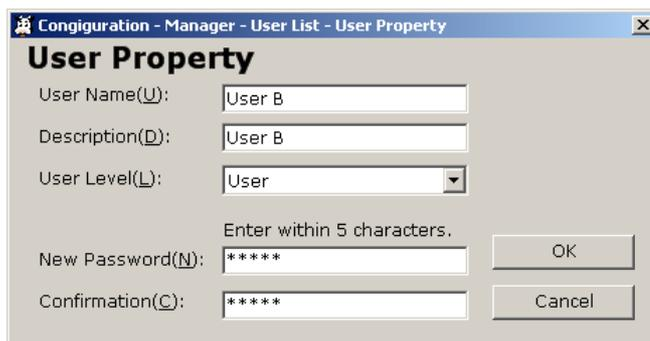

Fig. 11.4.3-1 : User property
(2) Enter user name and password (Fig. 11.4.1-1). The 'User Property' screen comes up (Fig. 11.4.3-1).